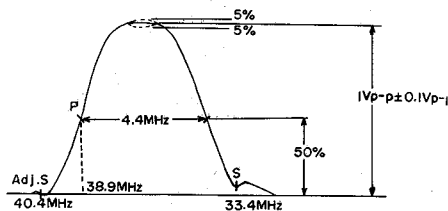

Figure 8
8. Adjust the transformer T111 (in VHF Tuner) and L201 to obtain the waveform shown in figure 8.
9. If not obtain the waveform shown in figure 8, readjust the coils (L203 and L204) and the transformers (T111 and L201).